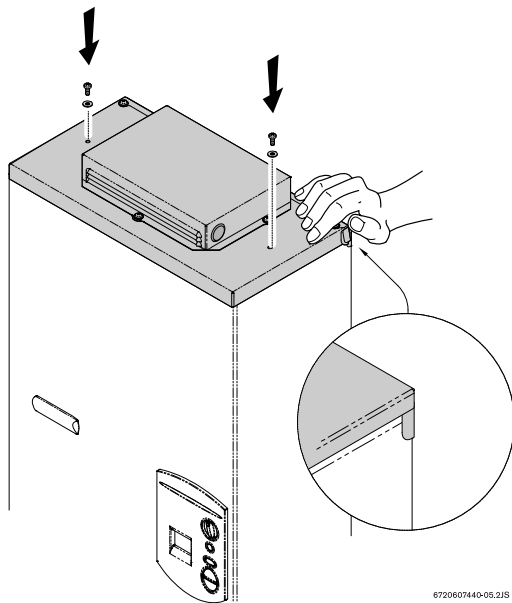

Fig. 8
- Fix the top vent cap on the top of the heater, as shown in Fig. 8). Make sure the vent cap is well fitted by taking special care that the front cover stays inside the extended corners of the vent cap, as shown in Fig. 8). The sides of the cover must be pressed with your hands to ensure it fits inside those corners. Secure it in place with its two screws.